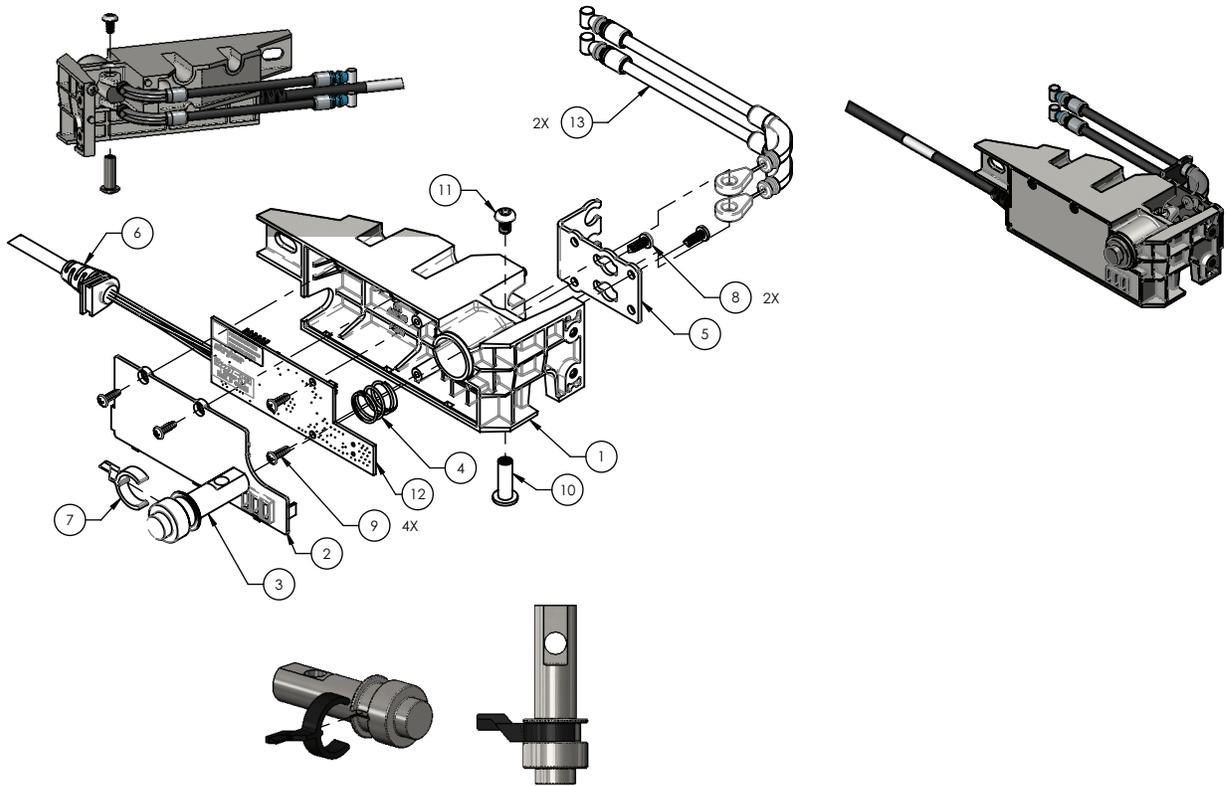

Figure 17 – DPM board replacement, head
13. Using a #2 Phillips screwdriver, remove and save the two screws (9) that secure the DPM cover (2) and remove and save the cover (Figure 17).
14. Using a #2 Phillips screwdriver, remove and save the two screws (9) that secure the DPM board (12) to the DPM assembly (Figure 17).